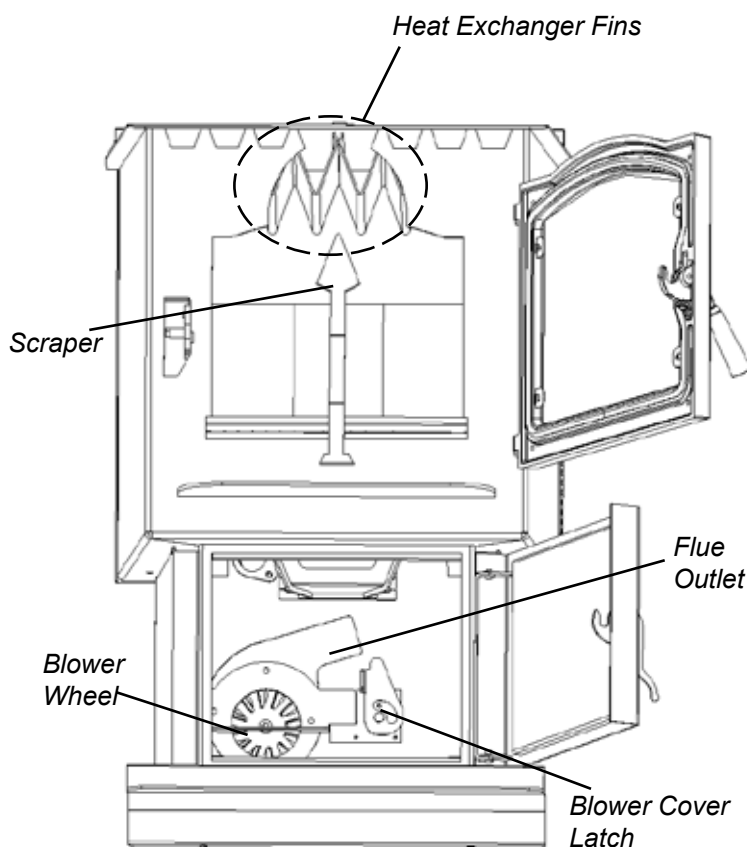
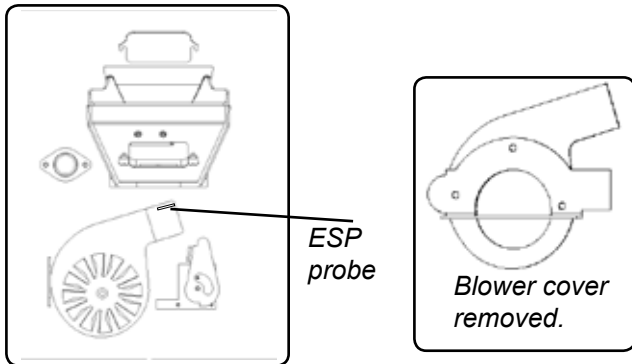

Fig 27
Fig. 30
2. Clean heat exchanger with scraper as shown in fig 27.
- Remove combustion blower cover by turning the blower cover latch vertical, see Fig.26. Sliding the cover out of the slot on the left. This will expose the combustion blower wheel and flue outlet, Fig.27.
- Use a brush to clean the flue, being careful not to damage the ESP probe, see Fig. 30. The flue goes straight through into the vent pipe (Fig.27) therefore, the vent pipe can also be cleaned, to some extent, through the flue outlet.